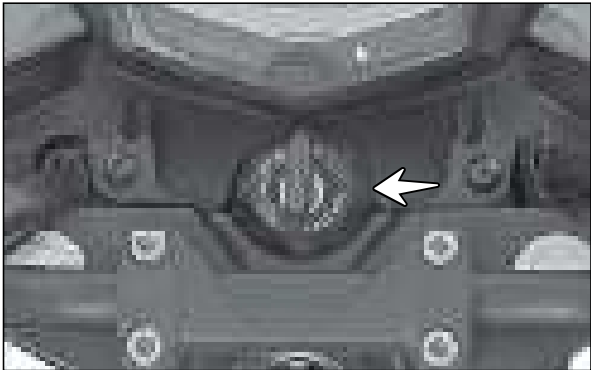

Fig. 5.7
- The ignition lock is located near the speedometer assembly. (Fig. 5.7)